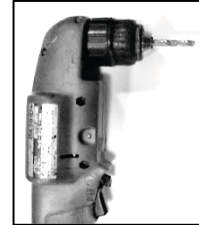

Figure 11
22. Use a short neck, right angle drill fitted with a 7/32" stubby length (short) drill to make holes. (Fig. 11)